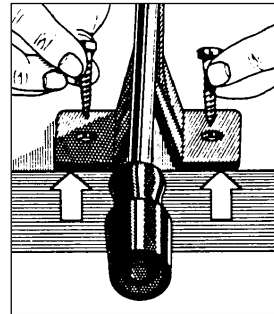

Figure 17. Rivet Spinner Mounting
1. Mount the rivet spinner flush with the side or front of a flat, clean work surface (figure 17).